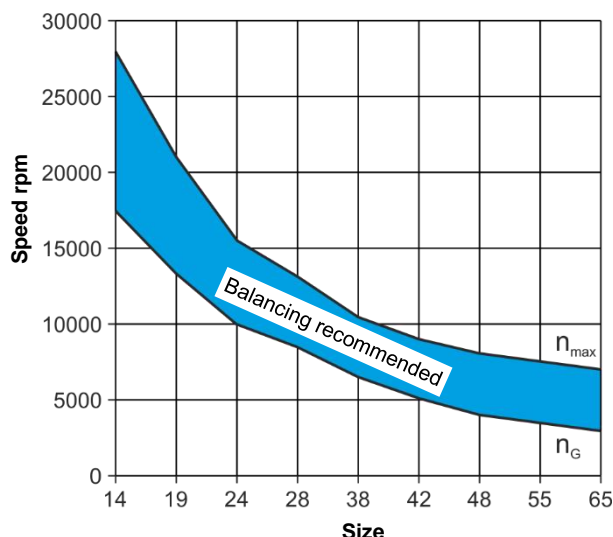

Fig. 19 (Balancing the shrink disk hubs)
- **Clamping hubs (0/5), key hubs (2), split clamping hubs (3) and expansion hubs (4)** rotate at maximum speed with a circumferential speed of 30 m/s. They are not balanced for standard delivery.
- **Shrink disk hubs (1) made of steel and aluminium** maintain balance quality $G = 6.3$ up to speed n_G (equals approx. 20 m/s) without needing to be balanced. Above this speed, we recommend balancing. The hubs are balanced individually. The diagram (Fig. 19) shows reference values. We recommend you use these values to balance the coupling components.